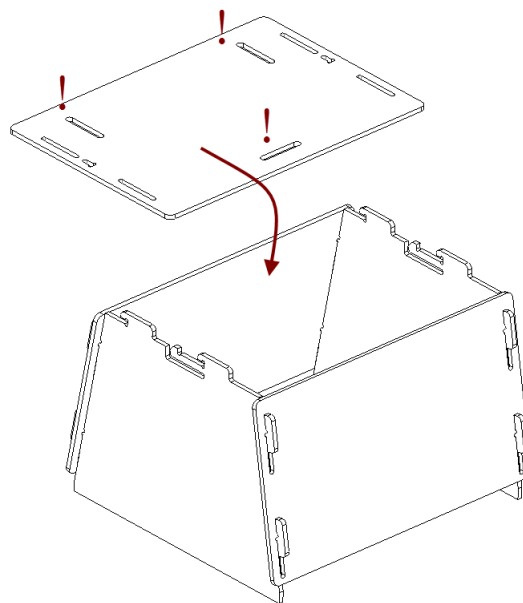

Figure 144: Mounting the cover.
3. Paying attention to orientation of the slots, install the cover using the upper hooks of the side walls (see Figure 144).